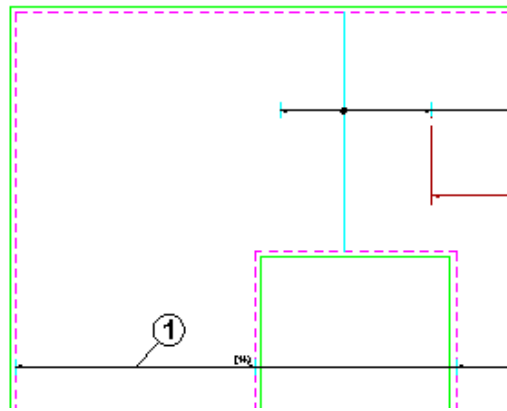

Figure 8.4.10:1 Using Edit Range to add a Range Group
- ▶ Make the Viewport on Edit Range Multiple Group (04) Layout current;
- ▶ Select CADS RC → Editing → Edit Range or  or double click on the Range Line as shown by point 1 in figure 8.4.10:1 below